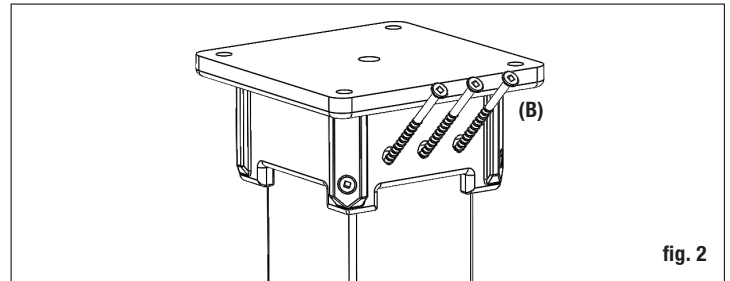

fig. 2
Step 3 Pre-drill through the three angled holes on the side. Attach to anchor using (3) #14 x 3.5" exterior construction screws (B). (fig. 2) Do not overdrive screws.